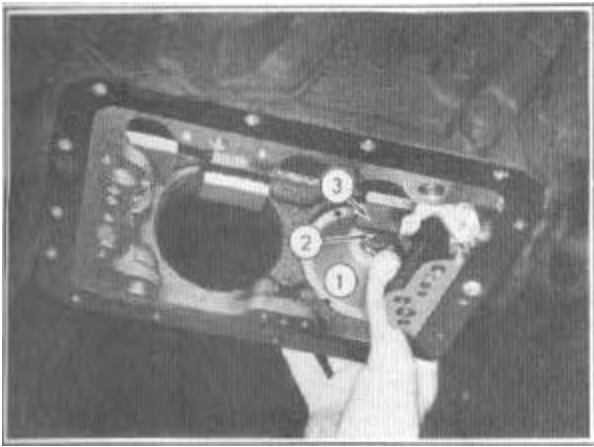

FIGURE 83
4. Remove the forward servo inner piston in the same manner as the low servo inner piston assembly, Figure 83.